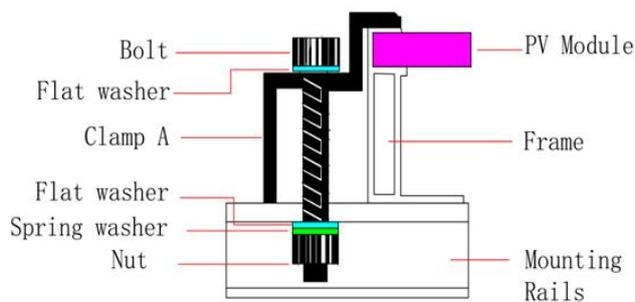

figure 5
- Clamp material should be anodized aluminum alloy or stainless steel. The mounting details are shown in the following *figure5* and *figure6*.
<p style="text-align: center;">Figure 5 D-A</p>